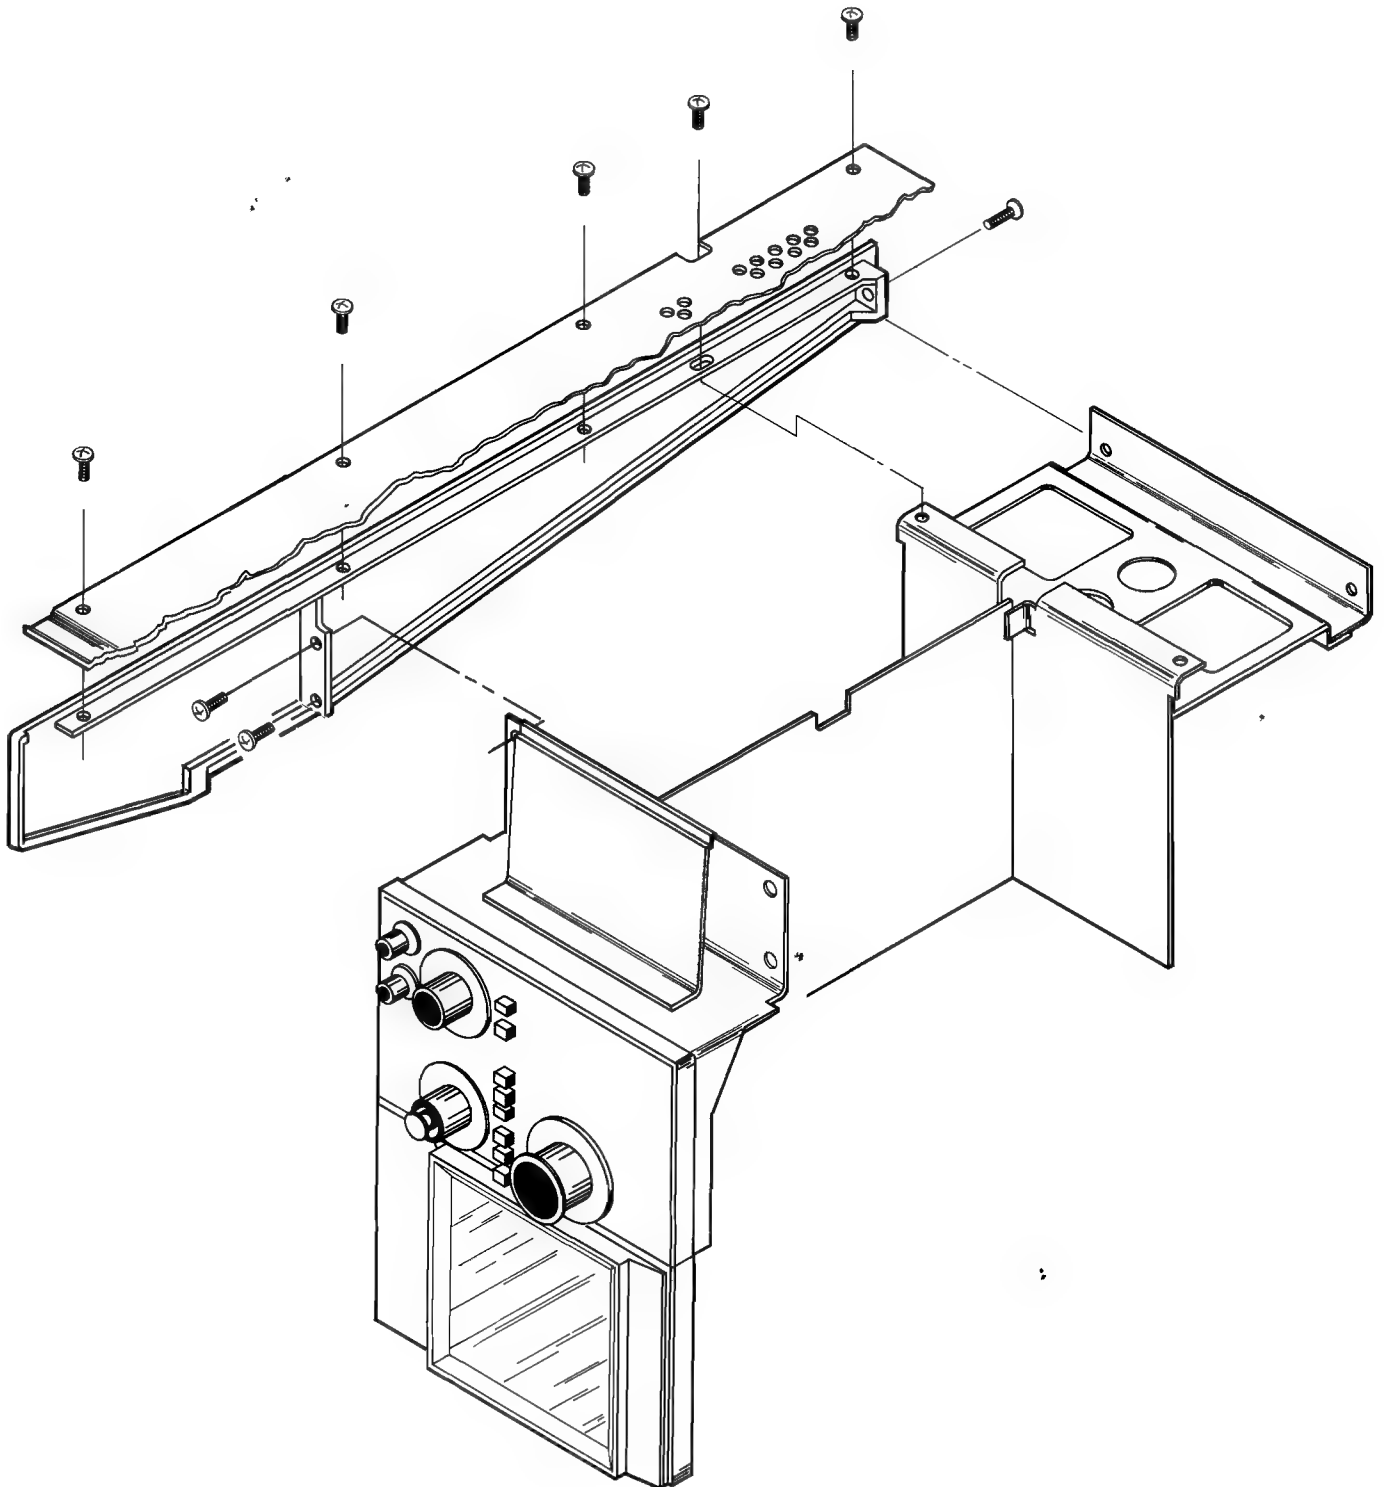

Fig. 4-2. Removal of right-side rail.
4. Referring to Fig. 4-2, remove the right-side rail as follows: